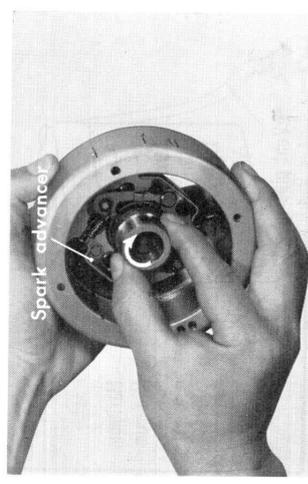

Figure 5-15. Inspecting spark advancer
- The check of the spark advancer operation may be performed on the engine with a timing light. When checking a removed unit, spread the counterweights apart with the fingers and if the weights return to the normal position smoothly when released, the advancer is operating satisfactorily. (Fig. 5-15)